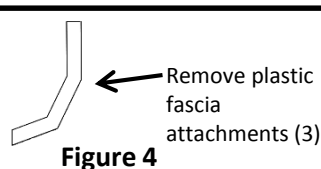

Figure 4
1. **Remove Plastic Cover** – (Driver Side) Using a 10mm socket remove (4) nuts and using a flathead screwdriver remove (3) plastic push pins.
2. **Remove Lower Fascia** – Using a phillips-head screwdriver remove (2) screws (1) per side and using a flathead screwdriver remove (3) plastic push pins. Then remove the plastic fascia attachment with a phillips-head screwdriver, (1) screw per attachment and return to owner. (See Figure 4)
2. (B). Then remove the plastic fascia attachment with a phillips-head screwdriver (1) screw per attachment and return to owner. (See Figure 4)